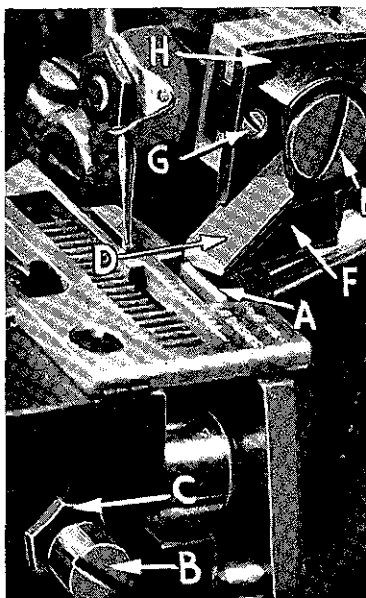

Fig. 12
Replace lower knife holder assembly. Lower knife (A, Fig. 12) should be set with cutting edge flush with throat plate surface. Adjustments are made with hexagonal head screw which holds lower knife. Lower knife is spring pressed against upper knife, so no lateral adjustment is necessary when width of trim is changed.
Replace upper knife assembly. Clamp upper knife (D, Fig. 12) in position, setting screw (E) to hold clamp (F) in its most clockwise position against upper knife. At bottom of its stroke, front cutting edge of upper knife should extend not less than $1/64$ inch below cutting edge of lower knife.